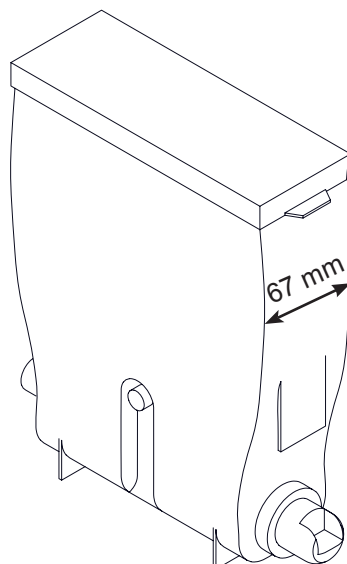

Fig.5.5b
- Containers for ingredients (see fig.5.5b)